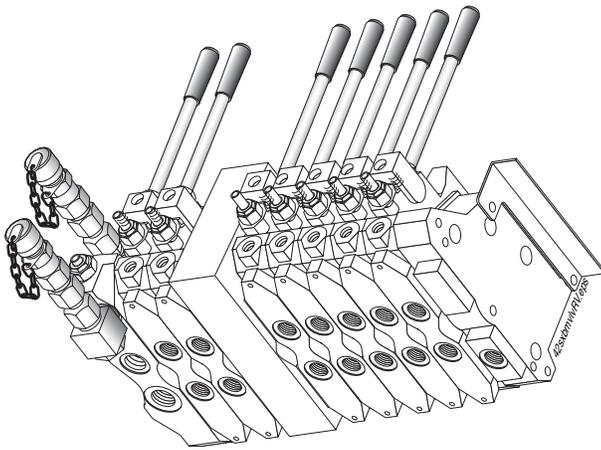

Figure 31
Setting the MAX parameters requires opening the hydraulic enclosure to gain access to the boom hand valve (Figure 31). This procedure applies to all units except the 45/47 meter units, which have no visible hand valve handles to view. The MAX parameter on those units must be set by checking the boom times found in the *Specification* section of the operation manual and operating each boom section to monitor those times.
15. When the joystick is activated (Figure 31) and the “I” switch is still being held down, the display will show a bar graph like the one shown in Figure 32, at which time the “I” switch can be released. The joystick, however, must remain activated or the screen will revert to the one shown in Figure 29 and you will need to start over at the previous step.